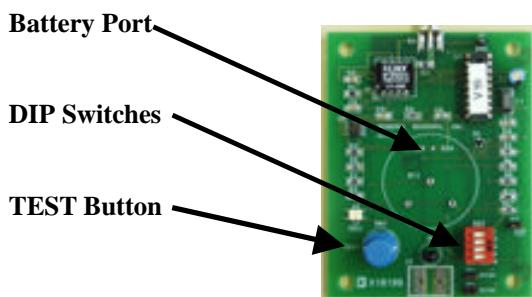

figure 1
- Unwrap the protective plastic from each battery. Note that the battery pins are off center, meaning that there is only one way to **insert the battery** in the center of each sensor's printed circuit board. (see fig.1&2). There is a small arrow on one side of the battery indicating the top position of the battery as it fits in the pin sockets. Make sure the pins are straight and push the battery into the pin sockets.